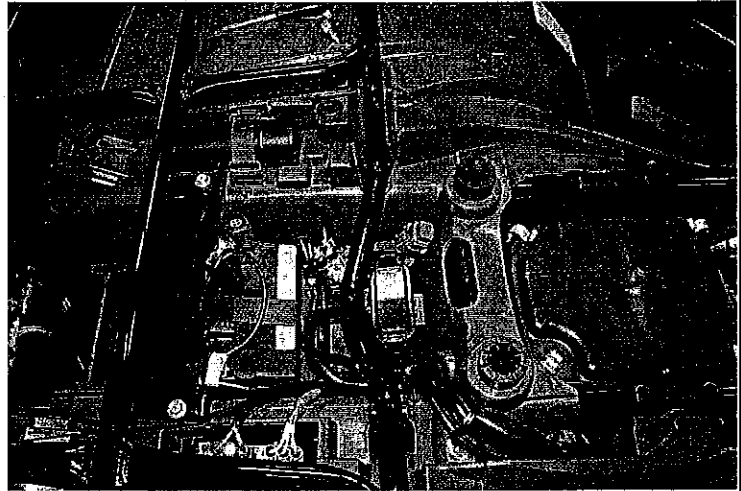

Figure 17
16. The suggested mounting location for the winch contactor is under the plastic cover just behind the seat as shown in Figure 17.